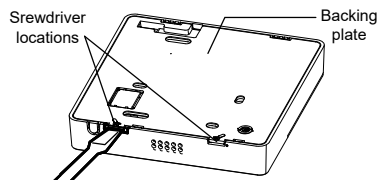

Figure 2. Backing plate removal
- Insert a flat screwdriver into the slots in the lower part of the wired controller (2 places). Rotate the screwdriver (2 places) to remove the backing plate (Figure 2).